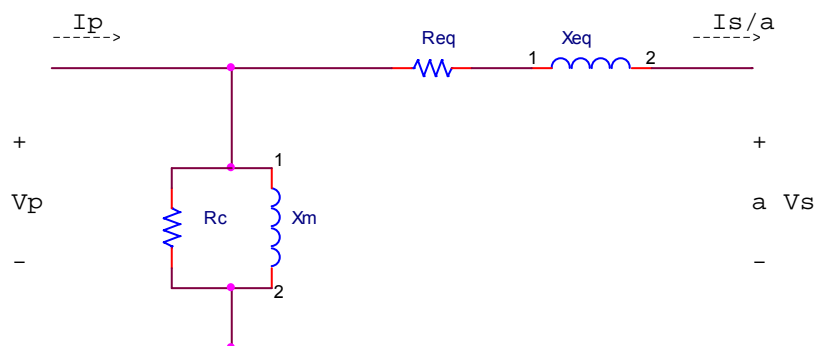

Figure 1: Approximate equivalent circuit of a transformer referred to the primary side.
In this experiment, you will investigate the non-ideal properties of a transformer. The losses that occur in a real transformer can be accounted for by using an equivalent transformer circuit such as the one depicted in Figure 1. The values of the equivalent circuit components R_{eq} , X_{eq} , R_c , and X_m can be determined experimentally from the open circuit and short circuit test.
2. Use the data collected in part one of the lab to determine the transformer voltage regulation (VR) and transformer efficiency (η) for each of the loads.
3. Use the data collected in parts two and three of the lab to determine the circuit element values for the components of the transformer equivalent circuit shown in figure 1. Place these values in a table.